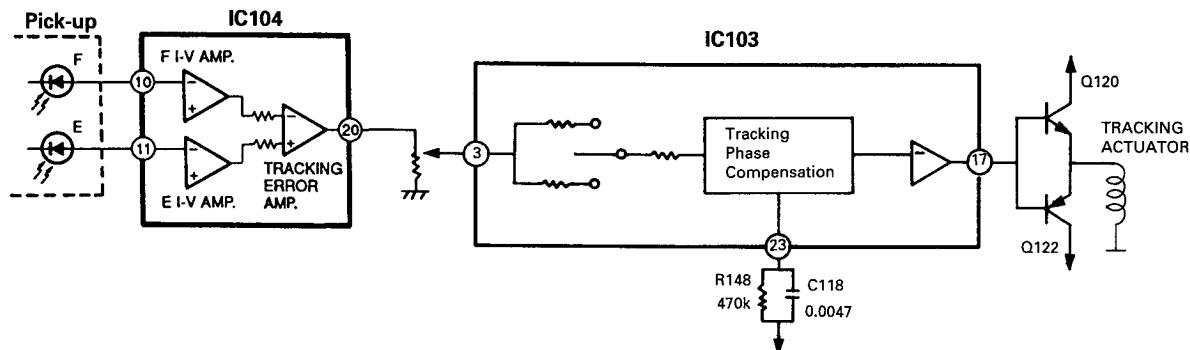

Fig. 6
- 1) Remove 3 screws (① to ③).
- 3) Remove 3 screws (④ to ⑥).
- 4) Turn to the clockwise gear loading of the assembly lock gear (see figure 6).
4. Remove the loading table (Figure 6).
When a tracking error signal is detected by photodiodes E and F, it is fed to pins 17 and 10 of IC104 respectively as shown in Fig. 6. In IC104, the signal is converted into voltage by the E I-V amplifier and F I-V amplifier, transmitted to the tracking error amplifier and output through pin 20. While it passes through IC103, in from pin 3 and out from pin 17, it is amplified in IC103 and sent to the tracking coil to adjust pickup so that the amount of track shift is reduced as closely to none as possible.